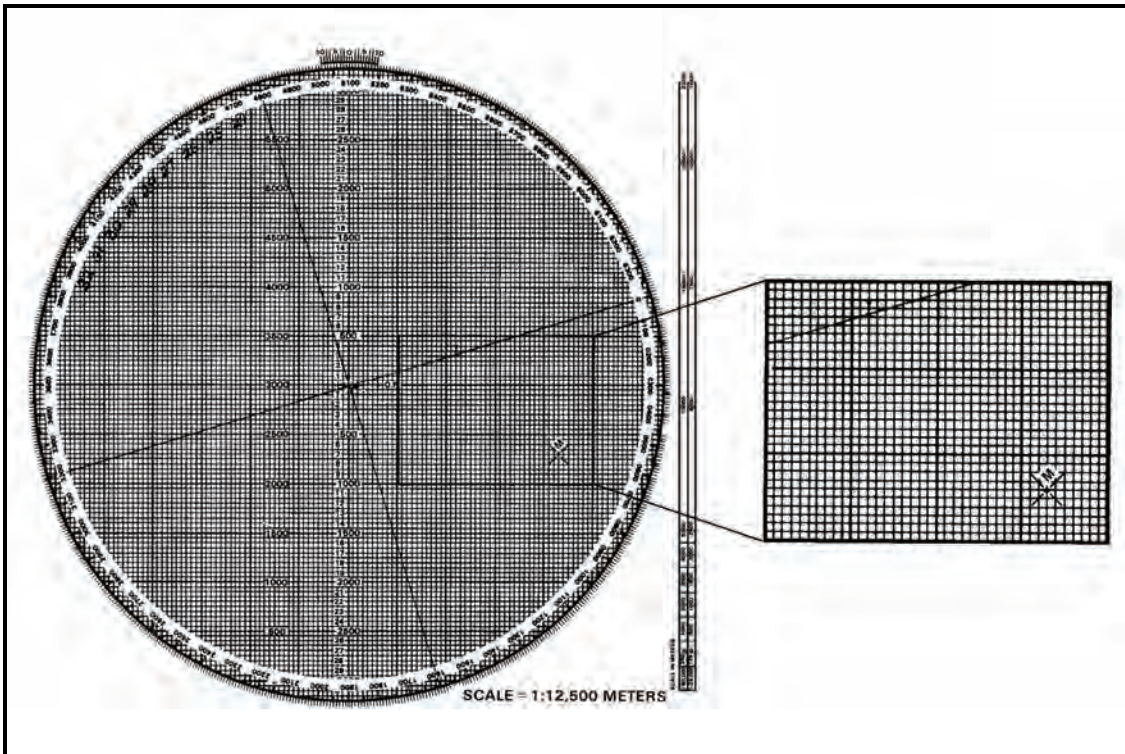

Figure 14-16. Drawing final protective fire symbol with attitude indexed.
- (1) The FDC can determine the danger close mortar by indexing the target attitude and drawing a line from the initial FPF plot (given in the CFF) 50 meters above and below (Figure 14-16).